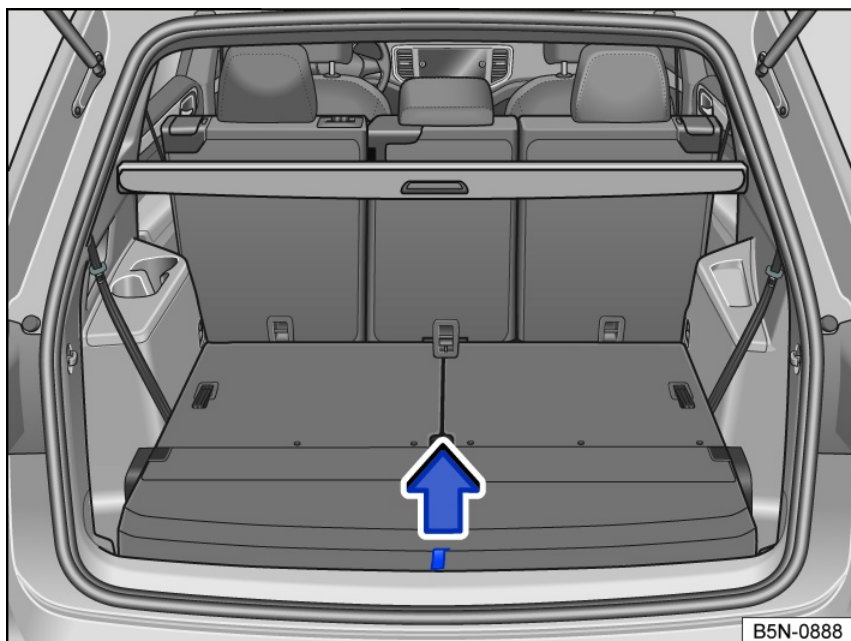

Fig. 171 In the luggage compartment: Lifting up the luggage compartment floor.
1. Pull the luggage compartment floor upwards by the tab *fig. 171* in the direction of the arrow and remove it.